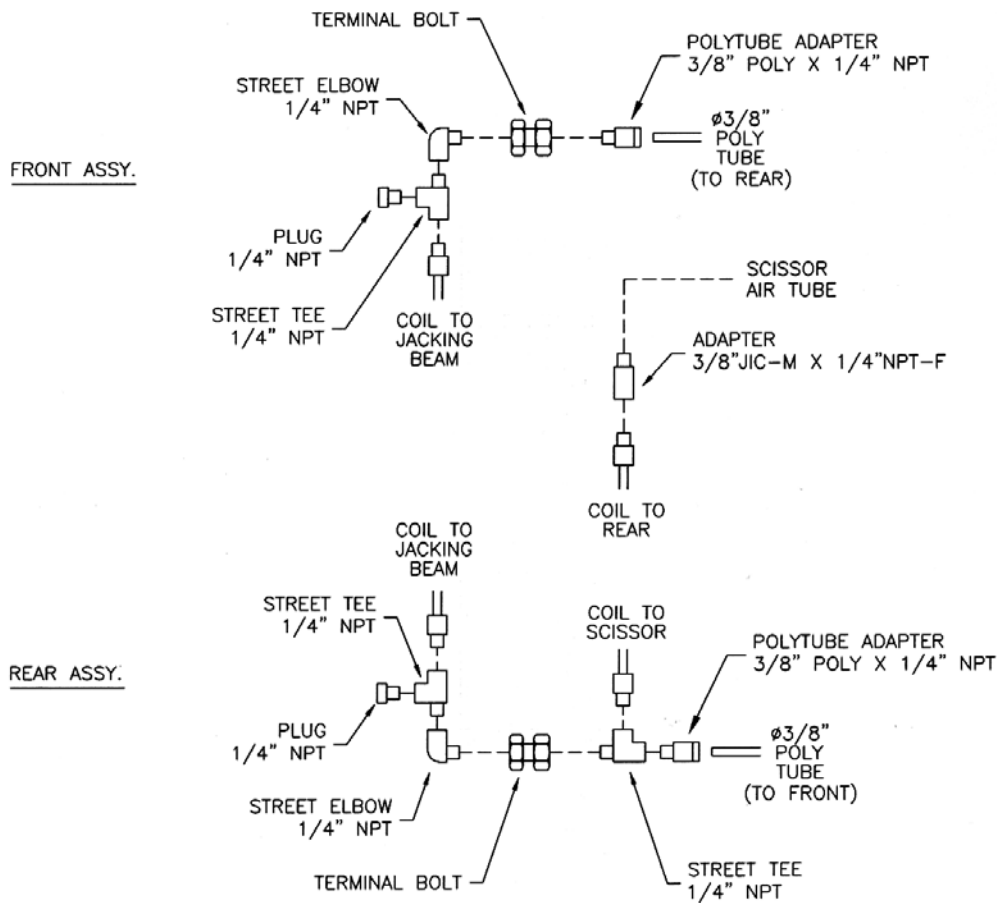

Figure 5 – Air Line Connections
3. Assemble the fittings to the front of the right side deck as shown in Figure 5. Connect the 3/8” polytube from the inside of the deck to the fitting assembly.
4. Assemble the fittings to the rear of the right side deck as shown in Figure 5. Connect the 3/8” polytube from the inside of the deck to the fitting assembly.
5. Remove one recoil hose from the accessory box and connect it to the rear fitting assembly as shown in Figure 5. Run the recoil hose under the deck and connect the opposite end to the air line on the scissors using the 3/8”JIC-M x 1/4”NPT-F adapter from the hardware kit.